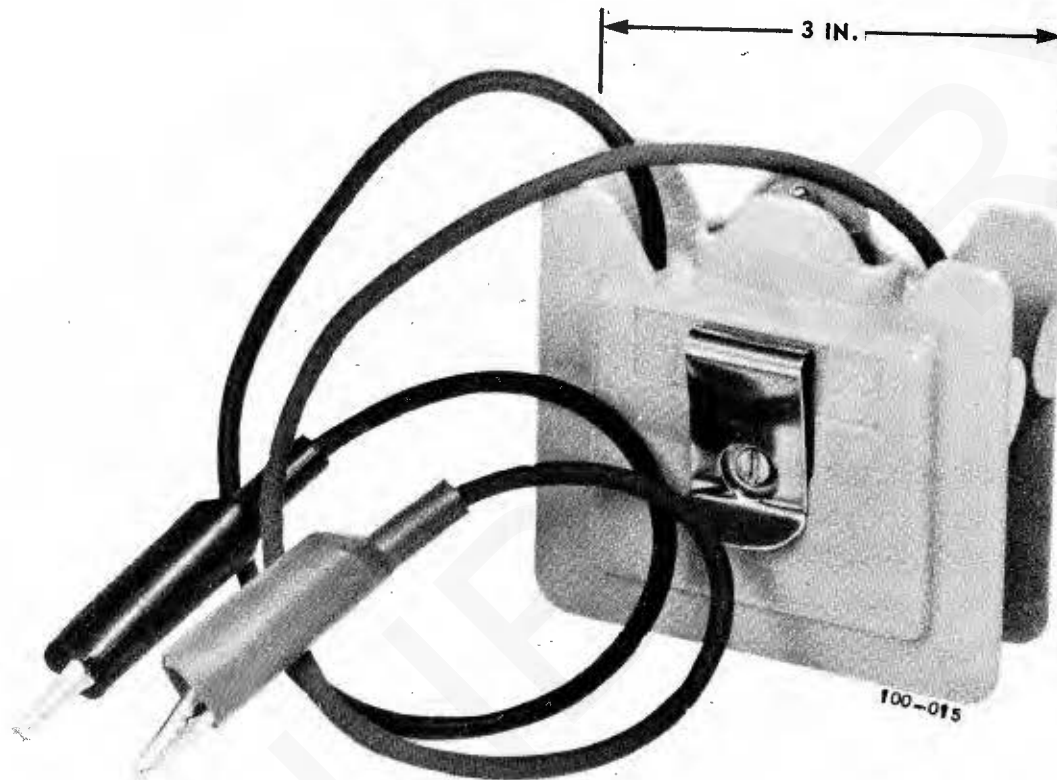

Fig. 1 — QGL7A Tone Generator (Closed)
1.01 The QGL7A Tone Generator (Fig. 1) is a compact self-powered device for conductor and telephone circuit verification. It is used to: